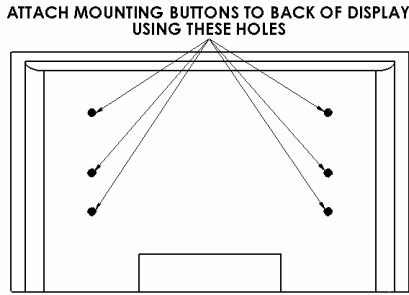
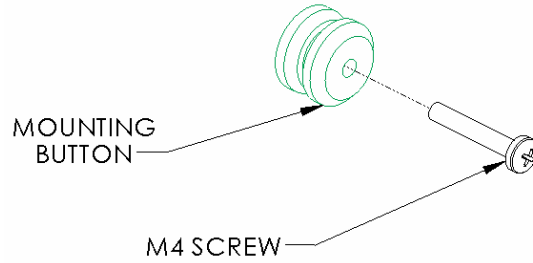

Figure 3
Figure 4
2. Attach mounting buttons to the display using the M4 screws provided (see Figure 3 & Figure 4).